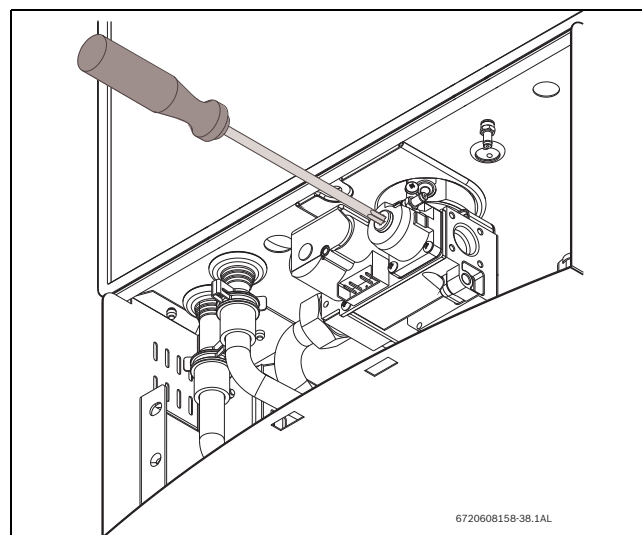

Fig. 66 Adjusting P2 CO₂ level
- Remove yellow painted #40 Torx cover from the front of the gas valve. (Fig.66) A plastic #40 Torx screw will be revealed.